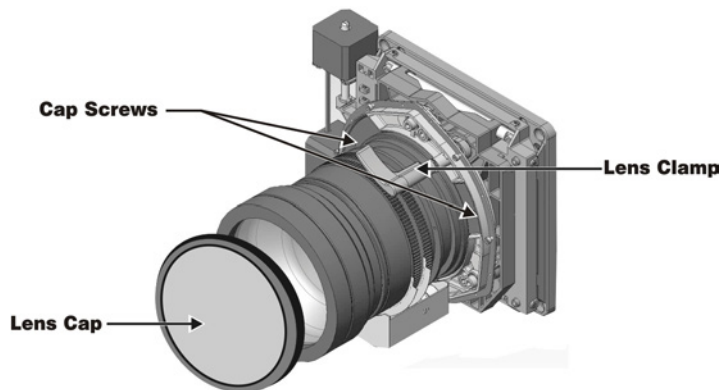

Figure 6-6 Release Lens Clamp
4. Install the lens cap and release the lens clamp by pushing it up (**Figure 6-6**).
5. If necessary, remove the 2 cap screws securing the lens to the lens mount using a 5mm hex key (**Figure 6-6**). The cap screws are only needed when the cinema projector is ceiling mounted.